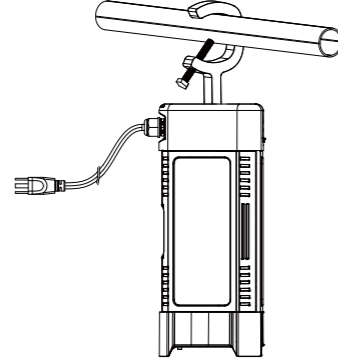

Figure 4
2. Clip the fixture on the round tube and tighten the screw.(Figure 4)